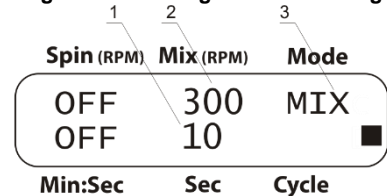

Figure 6. Vortexing
5.12.1 Select the vortexing mode (indication **MIX** of **Mode** parameter, fig. 6/3).
5.12.2 Set the required vortexing speed, from 300 to 1200 rpm (increment 100 rpm, fig. 6/2).
5.12.3 Set the required vortexing time, from 1 to 60 s (increment 1 s, fig. 6/1).